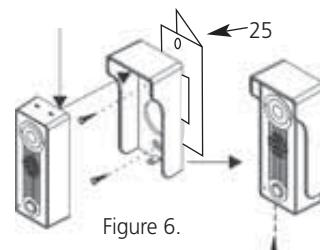

Figure 6.
Step 1. Mounting the doorbell camera onto the door frame (figure 6).
- In case you are using the optional corner bracket (25) then you need to mount that first onto the door frame and then mount the rain cover using the supplied screws.
- Pass the power cable through the hole in the rain cover and through the door frame, and then mount the camera onto the rain cover by placing the top end of the camera into the lugs of the rain cover (see figure 6).